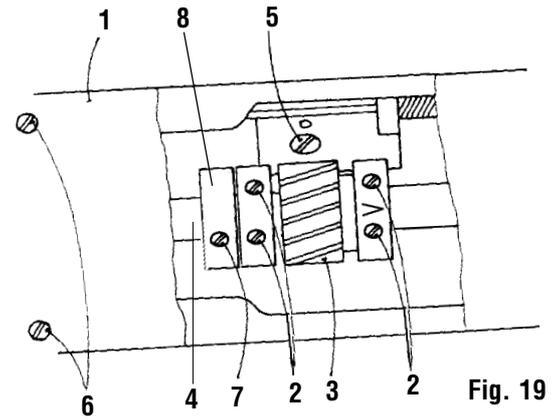

Fig. 19
18. Taking up the teeth clearance of the worm gearing (Fig. 19)
19. Setting of the needlebar holder sliding (Fig.19)